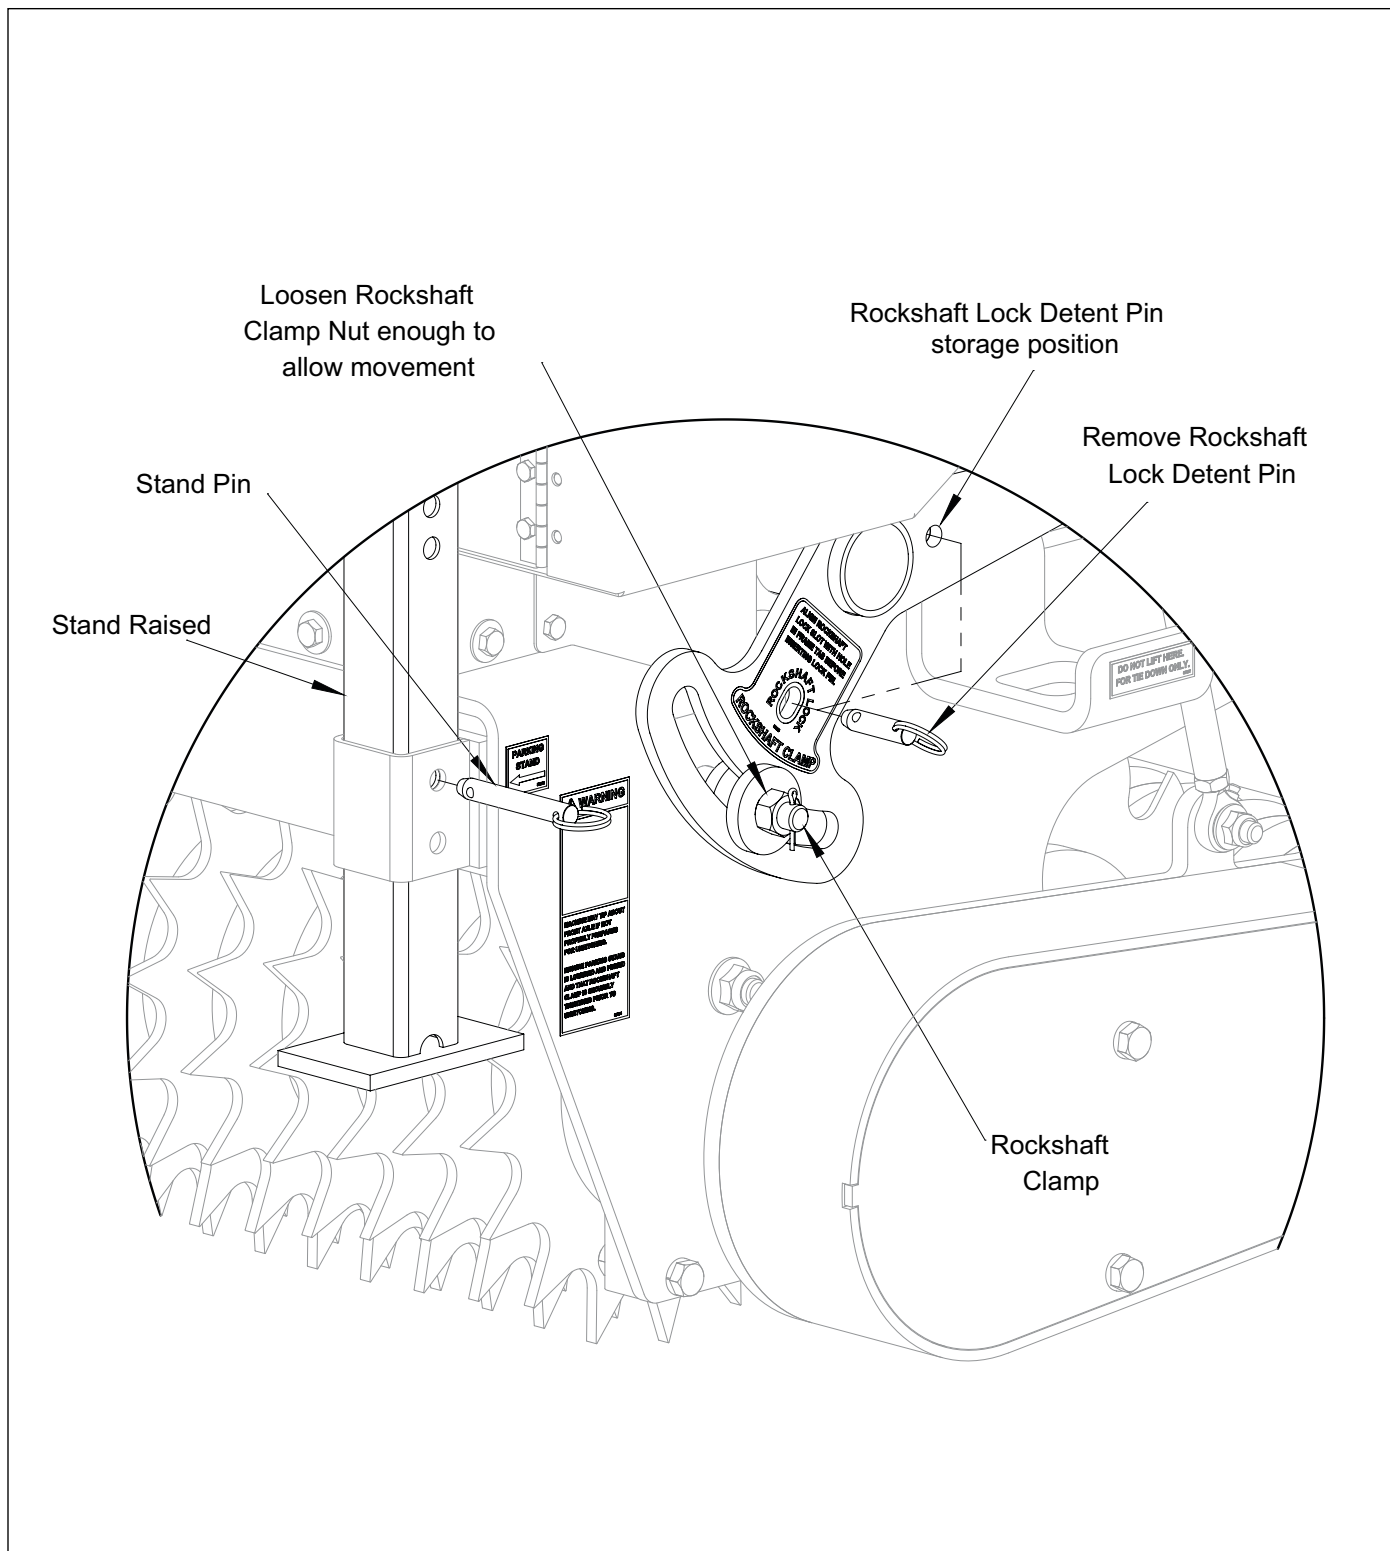

Figure 2-3: Rockshaft Lock
- After attaching the implement to the tractor and prior to lifting the machine, loosen the nut on Rockshaft Clamp enough to allow movement and remove the Rockshaft Lock Detent Pin. Insert Detent Pin in the storage hole on Rockshaft Arm. Raise the Stand. See Figure 2-3.